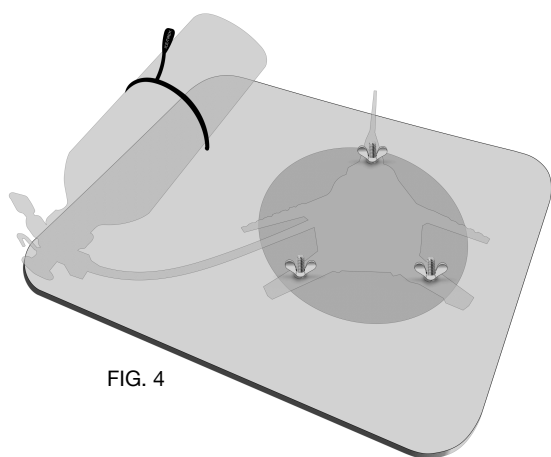

FIG. 4
7. Place the feet of your MSR stove over the bolts ensuring fuel line is oriented as in Fig 4.